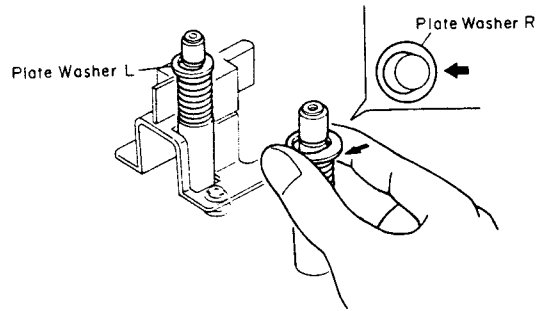

Fig. 2.10.1
Note: When mounting the Head Mount Base Ass'y, follow the next steps. Refer to Figs. 2.10.1 and 2.10.2.
- (a) Insert the Plate Washer into the groove of the shaft by hand as shown in Fig. 2.10.1.